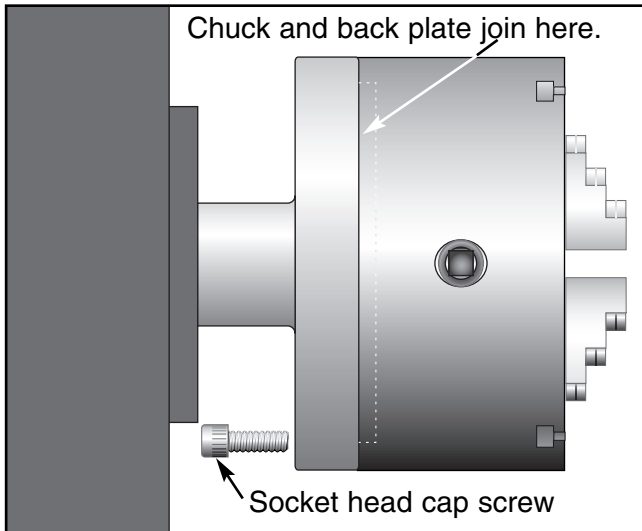

Figure 7. Remove screw from the back of chuck.
2. Locate the 3 socket head cap screws on the back of the back plate and remove 2 of them. **Please see Figure 7.**